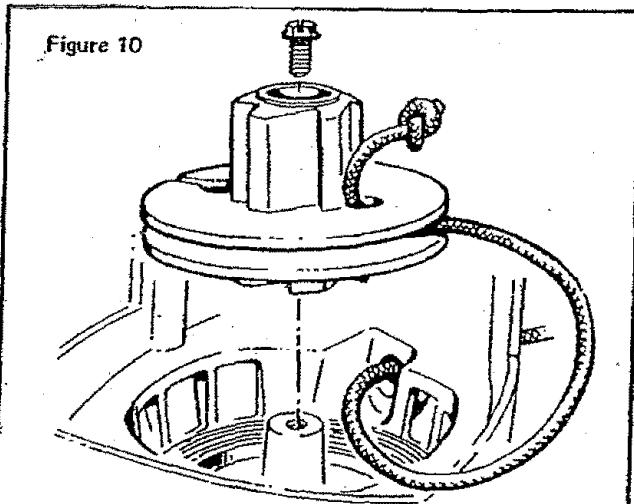

Figure 10
3. Feed the rope through the housing, into the pulley, and up through the pulley hole as in Figure 10. A sharp object or stiff wire will help you get the rope through the hole.